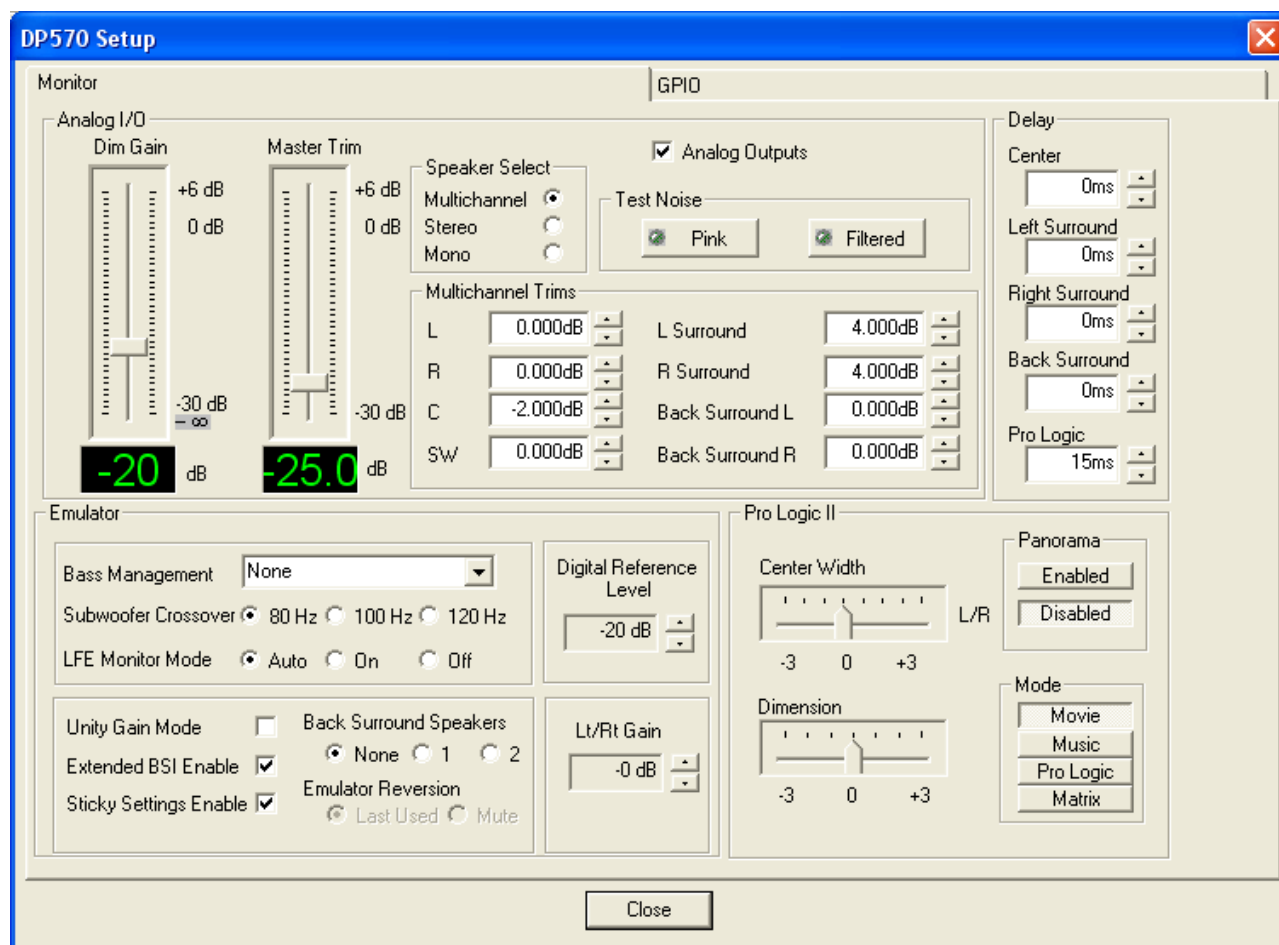

Figure 2-1 Monitor Configuration Tab
1. Click **Setup** on the application button bar. The system opens the **Monitor** tab shown in Figure 2-1.